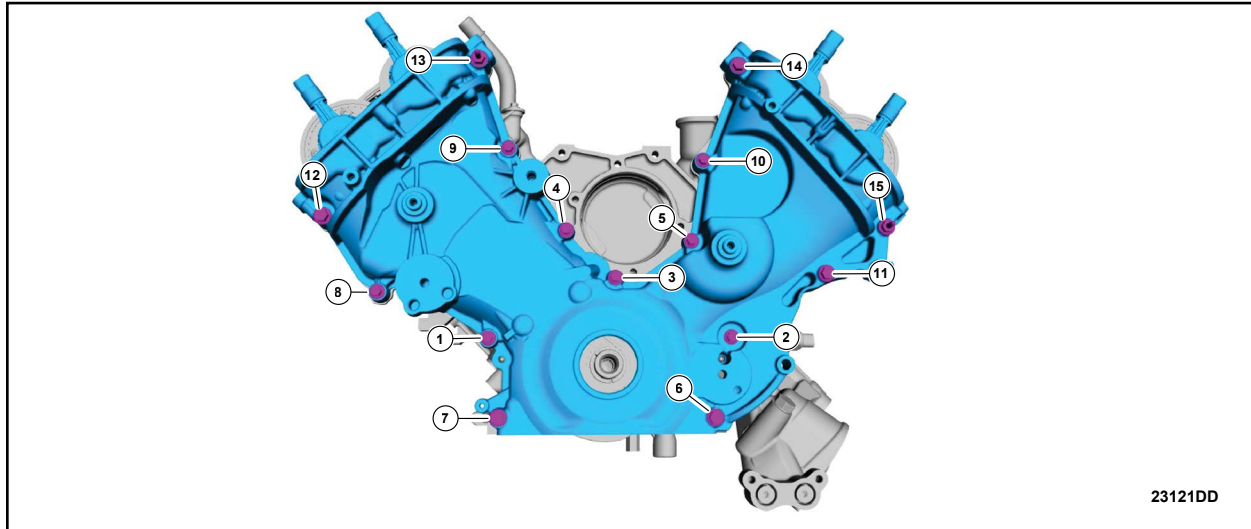

FIGURE 41
24. Install the *new* engine front cover and the fasteners. See Figure 41.